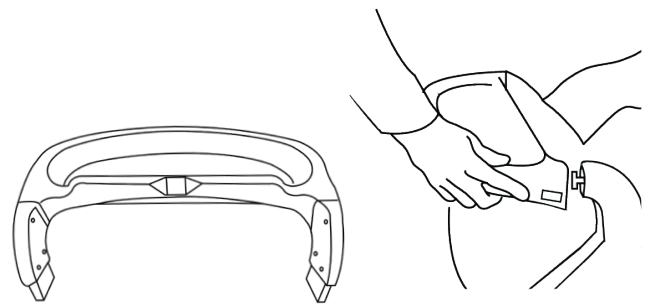

Fig. 6
10. To attach the child tray: Rotate and align left and right side of child tray posts with the left and right side stroller tray posts. Press left and right side child tray posts into left and right side stroller tray posts into a fully locked position. Press left side child tray button and snap child tray onto stroller tray posts. Release button to lock child tray onto stroller (Fig. 6). Repeat on right side of child tray. Check to make sure the child tray is securely attached to the stroller by pulling upward on the child tray.